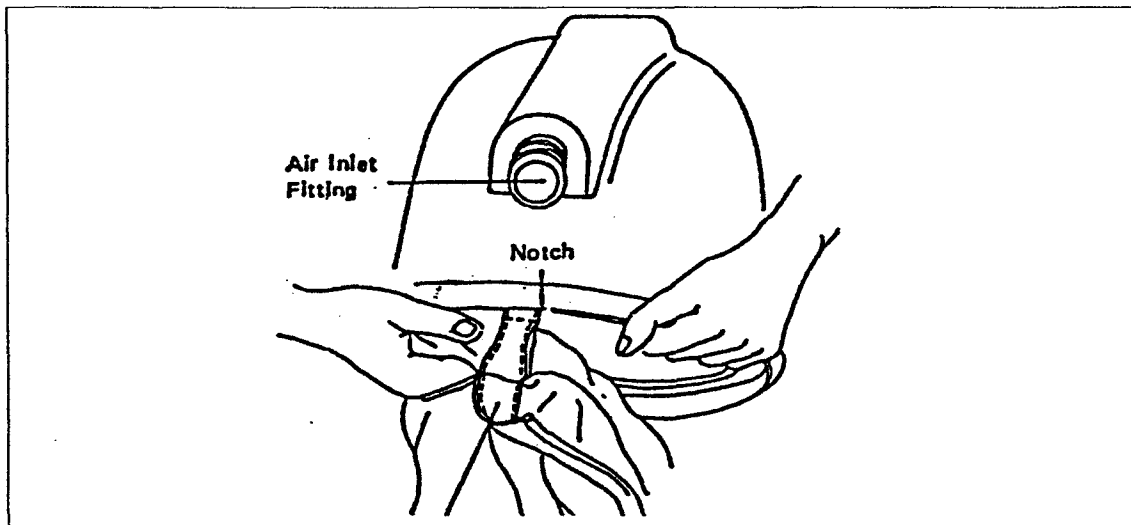

Figure 2-4
1. Remove the cape (Figure 2-4) and chin strap from the helmet.